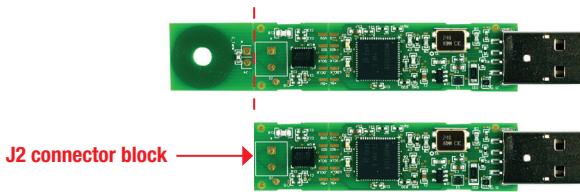

Fig.2 Custom coil connection
2. Connect custom sensor coil and capacitor (C) to J2 on the EVM (Fig. 2)